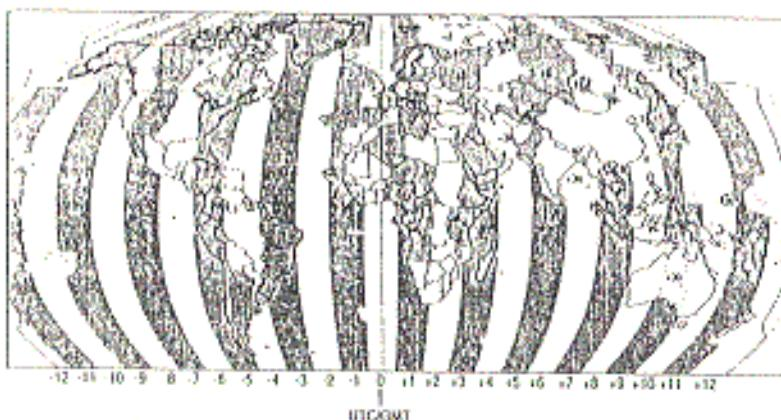

Figure 4. Offset time table
3. Turn the Channel Selector knob to select time offset from UTC. See Figure 4 to find your offset time from UTC. If 00:00 is assigned, the time is the same as UTC (Universal Time Coordinated) or GMT (Greenwich Mean Time)